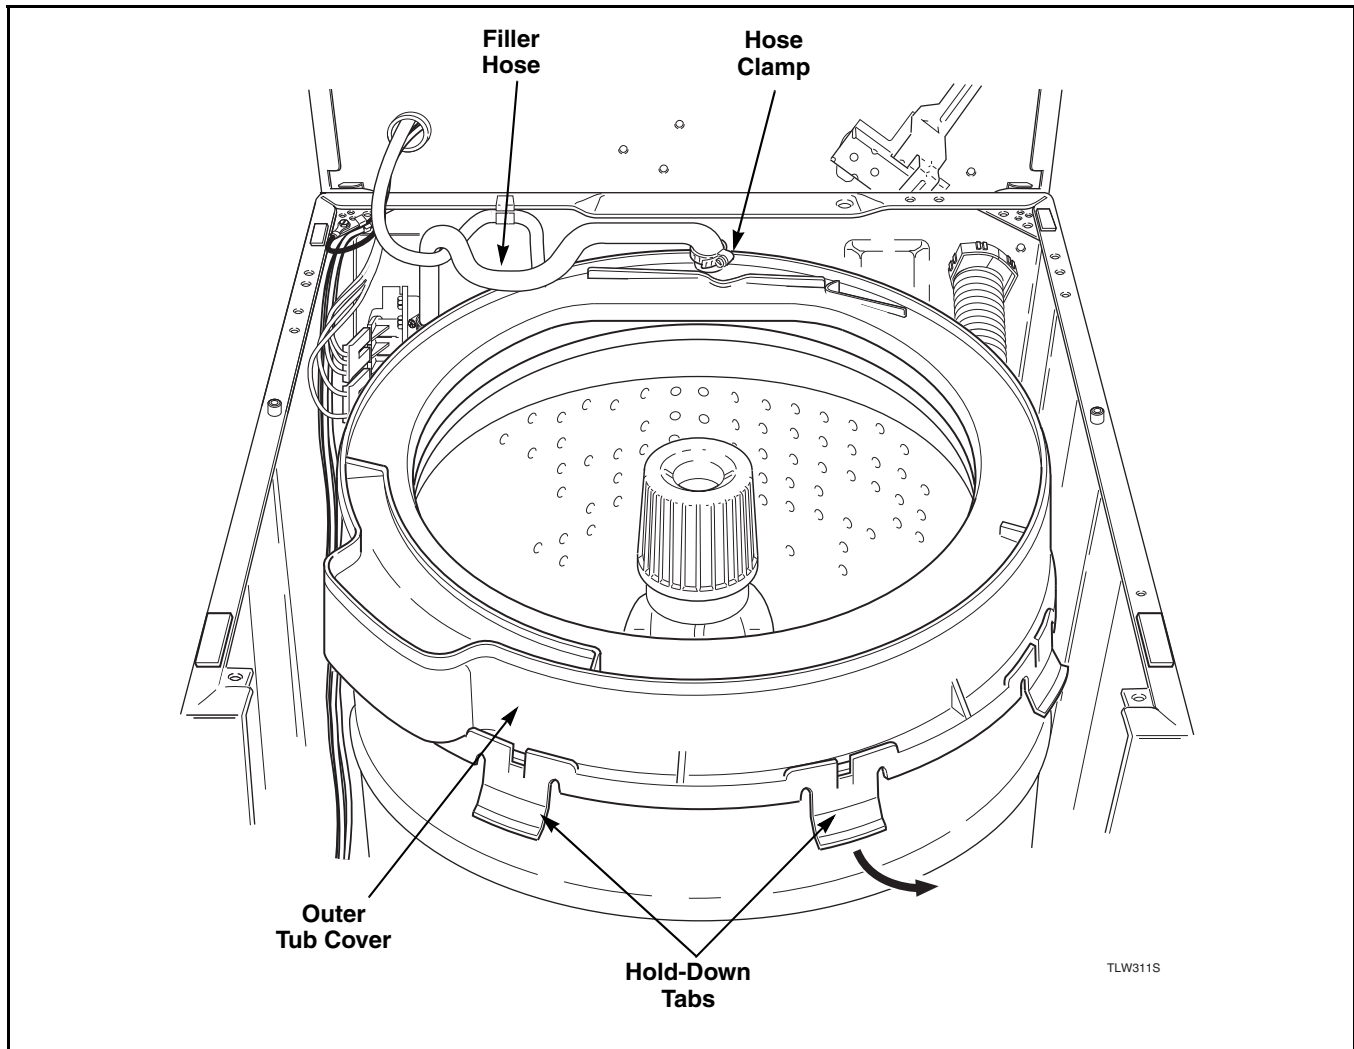

Figure 37
- Loosen hose clamp and remove filler hose from outer tub cover. Refer to *Figure 37*.
NOTE: When installing filler hose, white line on hose must point toward front of washer. Refer to *Figure 37*.